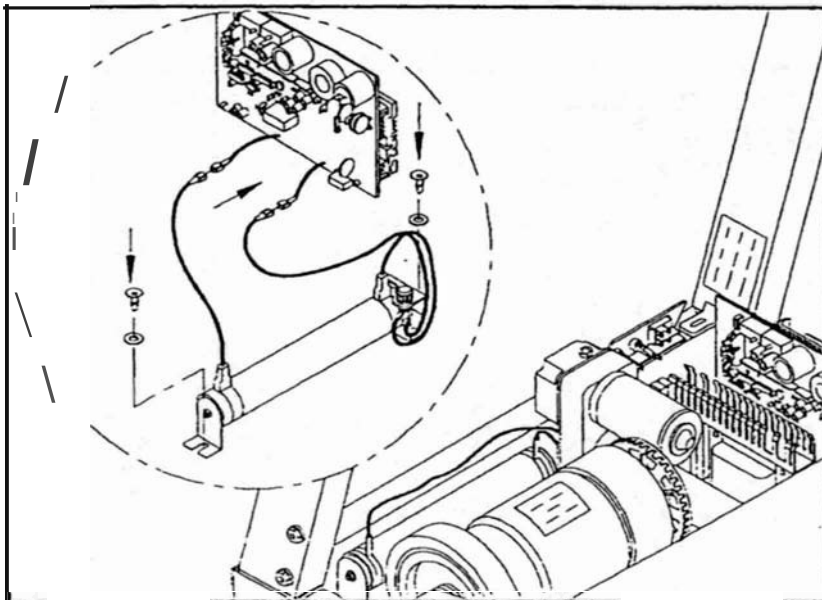

Fig.4
- Put one new large resistor in place and connect the cable of the large resistor to the drive board. (see Fig.4)